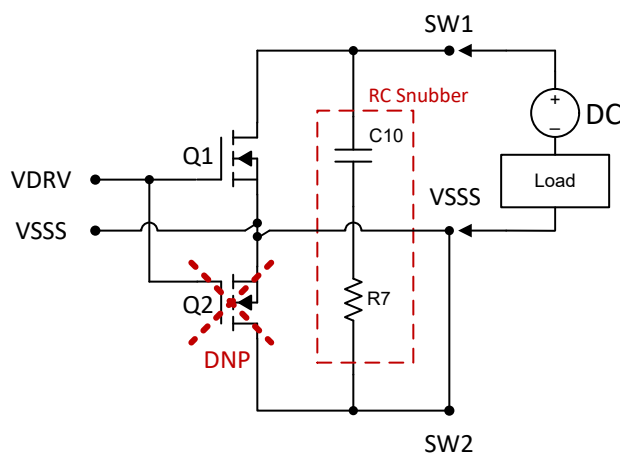

Figure 4-3. DC Load With RC Snubber
- c. Figure 4-3 shows a possible load configuration using one MOSFET (Q1) while leaving (Q2) unpopulated. This configuration allows the addition of an RC snubber for when a highly inductive load is connected by shorting terminal SW2 to VSSS terminal.